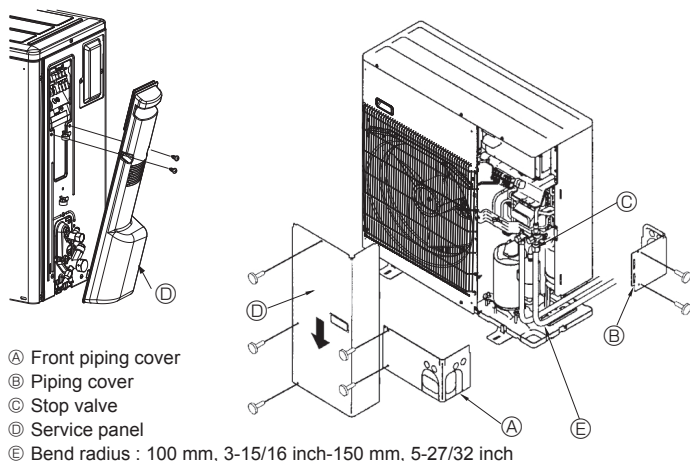

Fig. 4-3
4.3. Refrigerant piping (Fig. 4-3)